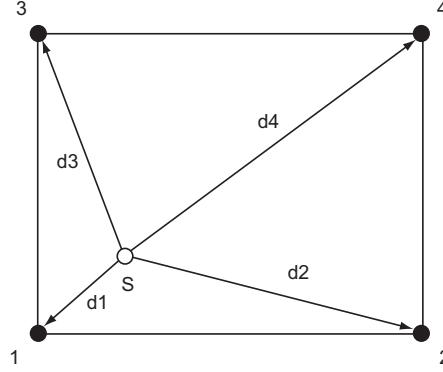

Figure 6.3: Interpolation for mismatched meshes.
A boundary element (BE) mesh and a structure mesh are said to be *mismatched* when not all nodes in the BE mesh have a corresponding node in the structure mesh that is coincident (by position). In such cases, nodal velocities at mismatched BE nodes are estimated by interpolating velocities from the nearby structure nodes (also referred to as *interpolating points*). Refer to Figure 6.3. For two matching meshes the velocities at structure nodes are directly applied to BE nodes.
Coustyx employs an inverse distance weighted interpolation method to estimate velocities at the mismatched nodes. The inverse of the distance between the BE node and the interpolating point is used as the weight. This approach diminishes the effect of far away interpolating points with respect to the nearby points. Employing this approach, the unknown velocity at a BE node is estimated by computing the weighted average of known velocities at ‘N’ nearby interpolating points collected from the structure mesh. Thus, the velocity at a mismatched BE node ($v(S)$) computed from the four interpolating points (shown in Figure 6.3) is given by